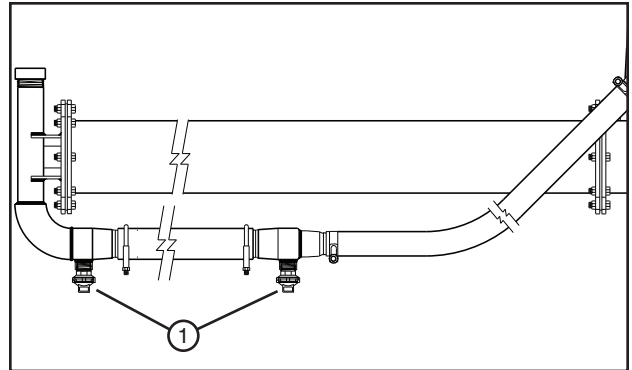

Figure 107-1 1. Booster Pump Hose Drain
- Make sure the booster pump hose drain is not plugged with sand or debris and the hose is completely drained See figure 107-1.